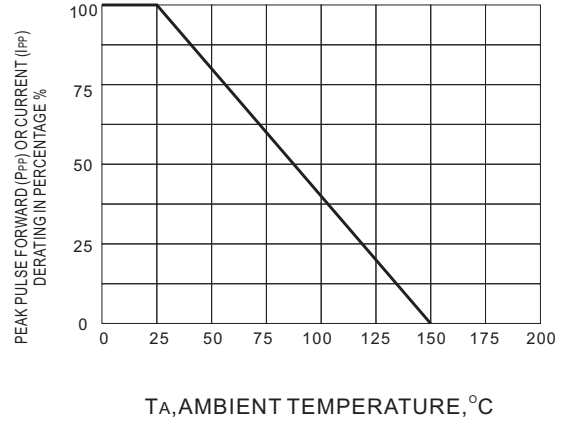
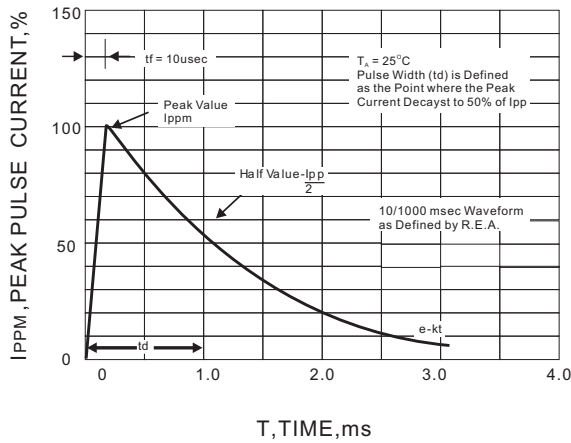

Fig.2 DERATING CURVE
Fig.3 PULSE WAVEFORM
- 1.Non-repetitive current pulse, per Fig.3 and derated above T_A=25°C per Fig.2.